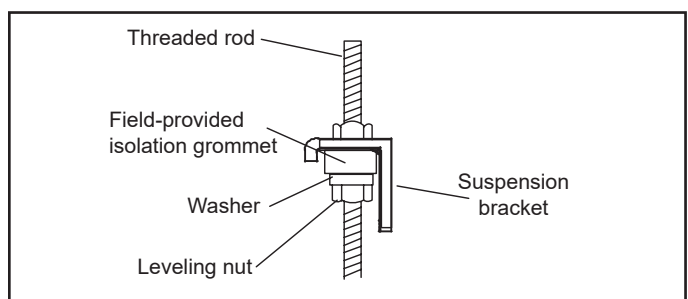

Figure 6. Locate Suspension Bracket on Threaded Rod
- Fix the two long suspension brackets provided in accessory package to the previously installed threaded rods. See Figure 6.
of the four nuts above the brackets down onto the brackets. This will ensure that the unit remains level. See Figure 6.